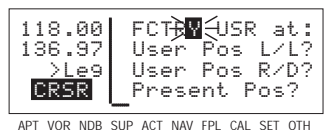

Figure 4-88
- Spell out the rest of the identifier using the right inner and outer knobs (figure 4-88).